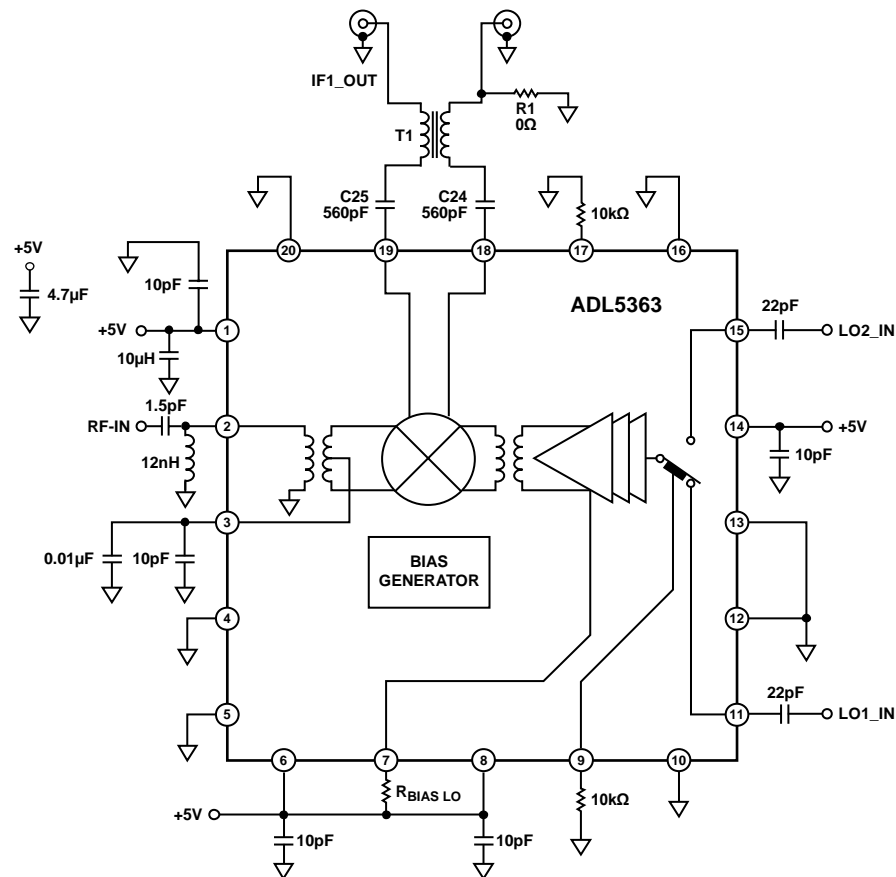

Figure 47. Typical Application Circuit
The ADL5363 mixer is designed to downconvert radio frequencies (RF) primarily between 2300 MHz and 2900 MHz to lower intermediate frequencies (IF) between 30 MHz and 450 MHz. Figure 47 depicts the basic connections of the mixer. To prevent nonzero dc voltages from damaging the RF balun or LO input circuit, ac-couple the RF and LO input ports. The RFIN matching network consists of a series 1.5 pF capacitor and a shunt 12 nH inductor to provide the optimized RF input return loss for the desired frequency band.